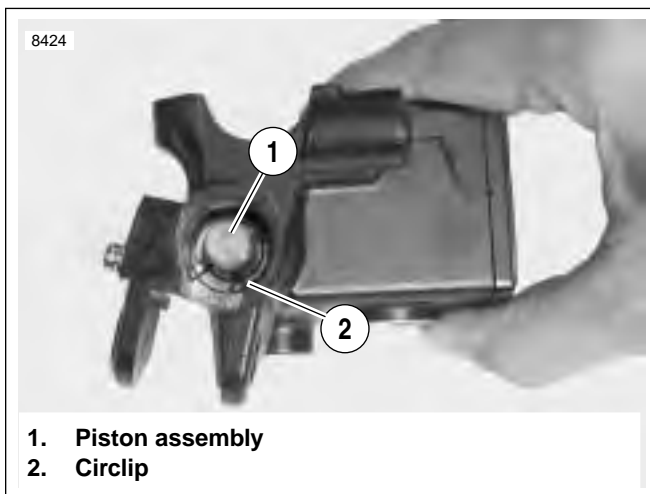

Figure 2-40. Piston Assembly in Master Cylinder
4. See Figure 2-40. Depress piston assembly (1) and remove internal circlip (2) and discard.
5. See Figure 2-40. Secure piston assembly (1) with a **new** circlip (2).